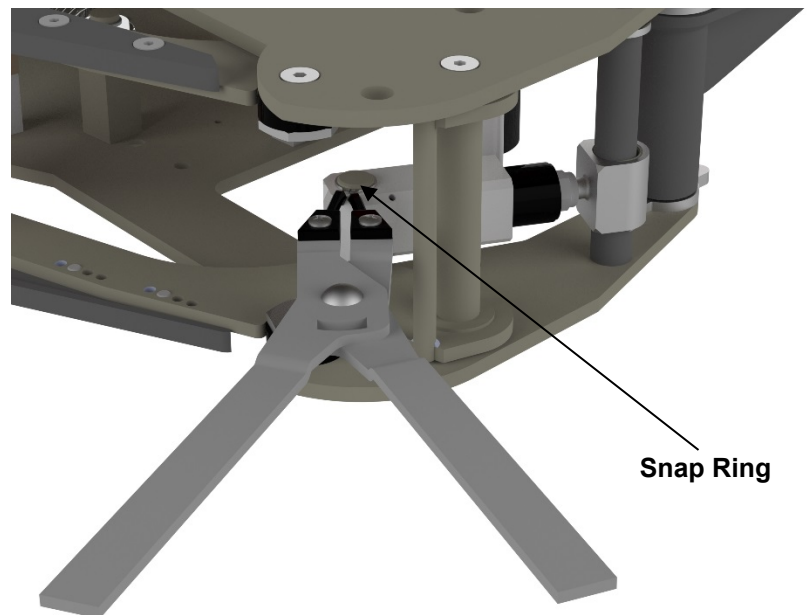

Figure 10-10
5. Reinsert retaining ring to the groove. Should the 10 mm retaining ring get damaged, replace it with a new one. **(Figure 10-10.)** Calibrate the spring pressure with the M6 nylon lock nut as described earlier.